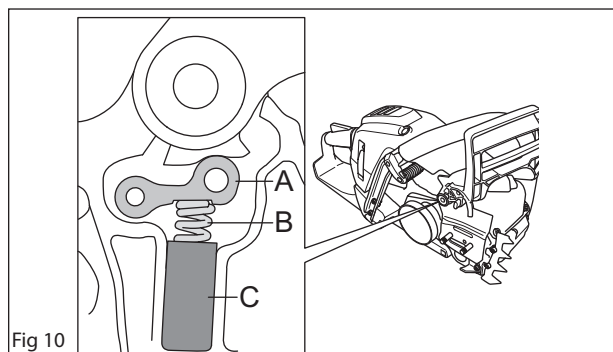

Fig 10
Screw the kickback guard in place and put the ratchet in position. Position the spring (B) in the plastic housing (C) (see figure 10) and press the spring against the rocker and then press the plastic housing into its groove. Tighten the chain guide plate in place.